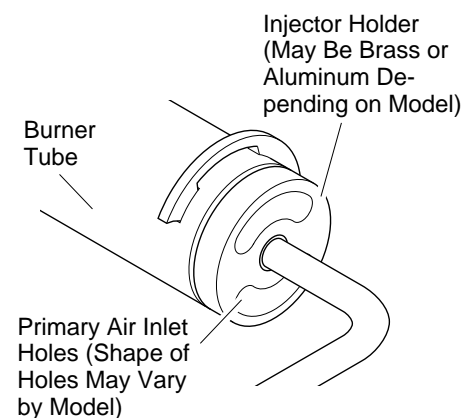

Figure 37 - Injector Holder On Outlet Burner Tube
2. Inspect burner, pilot, and primary air inlet holes on injector holder for dust and dirt (see Figure 37).